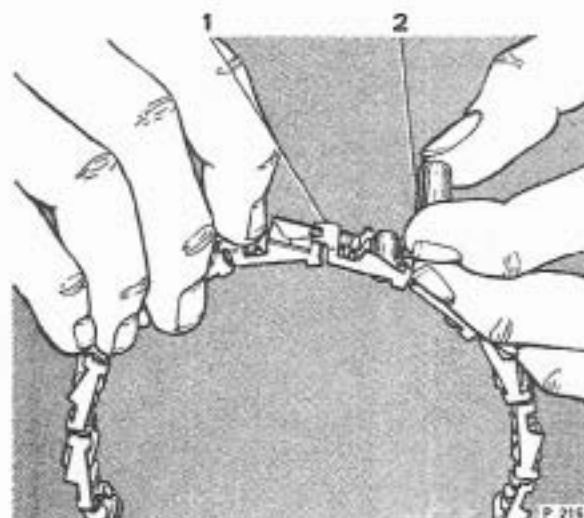

FIG. T283 FITTING A ROLLER TO THE ROLLER CLUTCH CAGE (ROLLER CLUTCH)
29. Fit the rollers that may have come out of the roller clutch cage, by compressing the energising spring with the forefinger and inserting the roller from the outside (see Fig. T283).